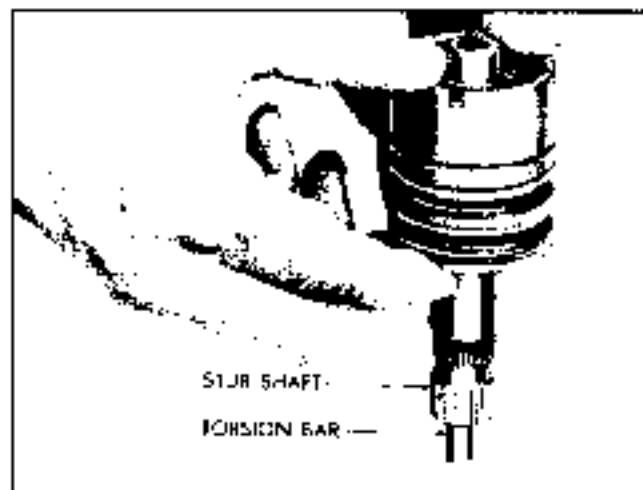

Fig. 9-54 Tapping in Loose Valve Spool
2. Tap end of stub shaft assembly gently against workbench to remove valve spool (Fig. 9-54).